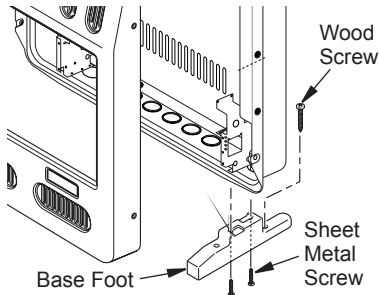

Figure 13 - Installing Base Feet (actual heater may vary from illustration)
- Align holes in base foot with mounting holes on bottom of cabinet (see Figure 13).
- Reposition heater with base feet over holes. Secure base to floor with wood screws. See Figure 13.